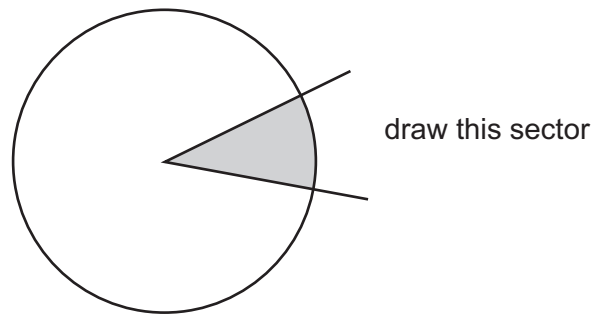

Fig. 2.1
- (a) (i) Draw a large plan diagram of the sector of the stem on **K1**, as shown by the shaded area in Fig. 2.1.